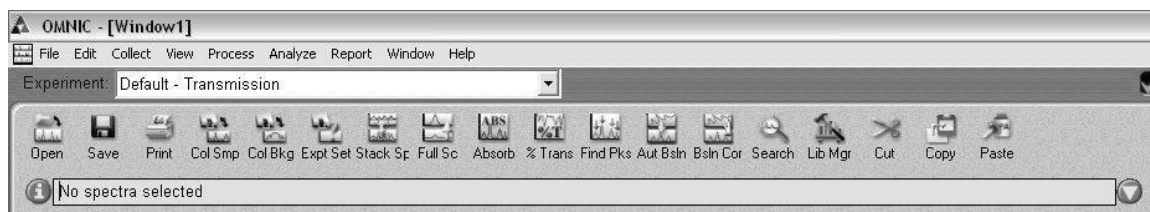

Figure 4 Omnic tool bar.
- 2.4. Under the *Collect* tab, Figure 4, set the number of scans to > 100 and the final format to what you want (we usually use single beam as described below). Enter a title for the experiment. Your window should be similar that shown in Figure 5.